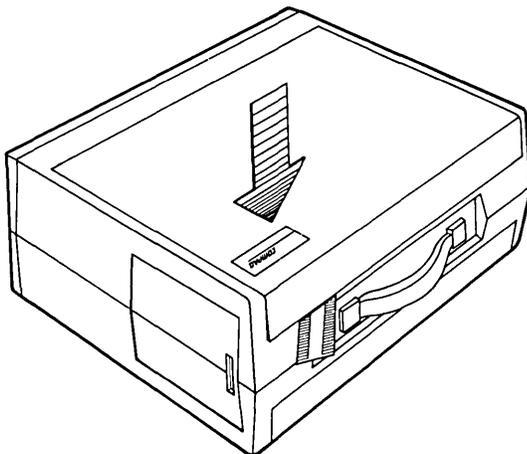

Figure 11-2. Opening the Access Cover.
1. Open the access cover by pressing down on the unit's plastic cover, with your hand placed next to the COMPAQ name plate (see Figure 11-2). As pressure is applied, the plastic cover bulges at the connecting seam which runs directly above the handle. Partially insert a plastic card under the cover at the bulge and release the pressure.